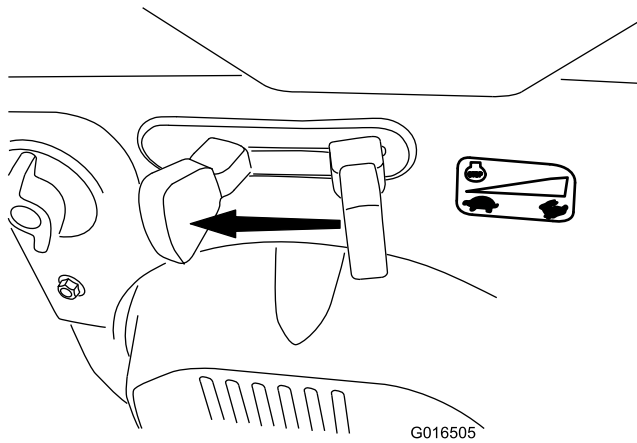

Figure 32
1. Move the throttle to the Slow position, and then to the Stop position (Figure 32) to kill the engine. The engine can also be stopped by pulling the ignition key outward to the middle position.